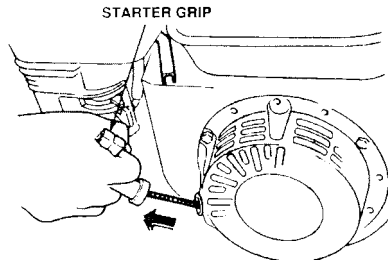

Figure 4. Recoil Starter Grip
5. Grasp the Recoil Starter Grip (Figure 4) and pull it out slowly. Pull till resistance is felt, then continue pulling the Recoil Starter Grip briskly and smoothly to start the engine.